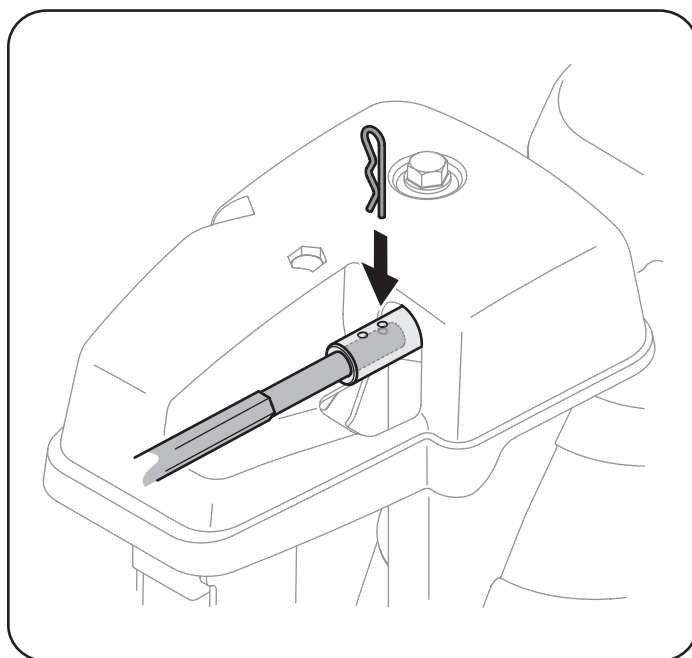

Figure 10
9. Now push the chute control rod back towards the handle panel until the hole in the rod lines up with the hole in the chute control input closest to the chute control head. Insert the cotter pin removed in Step 2. See Figure 10.